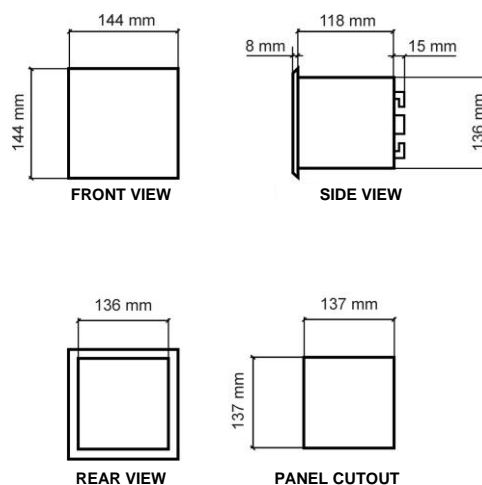

Figure 2.1 –IPR-A overall dimensions
3. Make a cutout in the panelboard of 137 x 137 mm [→ Fig. 2.1] and fix the relay by using the fixing elements provided with the relay.